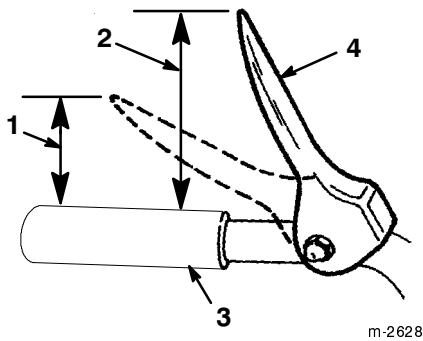

Figure 12
5. Check the distance between the top of the handgrip and the bottom of the auger/impeller drive control lever (Fig. 12). The distance should be approximately four inches (10.2 cm).